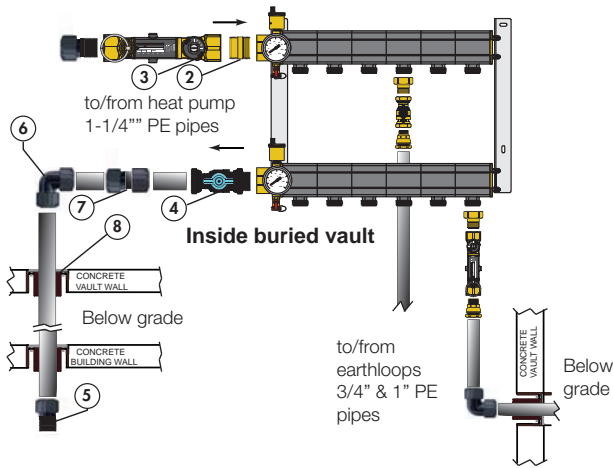

Figure 50
See Figure 50. To isolate the manifold and connect to the heat pump with buried PE pipe, use ball valve (4) with double nipples (2) on the heat pump circuit supply and return ports. Alternatively, brass ball valve (1) can be installed with double nipple (2) and male adapter (5) to connect to PE pipe. Additional, GeoGrip fittings are available to complete the piping layout to the heat pump in the mechanical room: elbow coupler (6), sleeve coupler (7), and GeoSeal wall penetration seal (8). See previous page for 3/4" and 1" GeoGrip and GeoSeal fittings for the earthloop circuits. The QuickSetter balancing valve with flowmeter (3) can replace the ball valve on the supply line combining isolation valve and flow setting and calculating the heat supplied by the earthloop system.